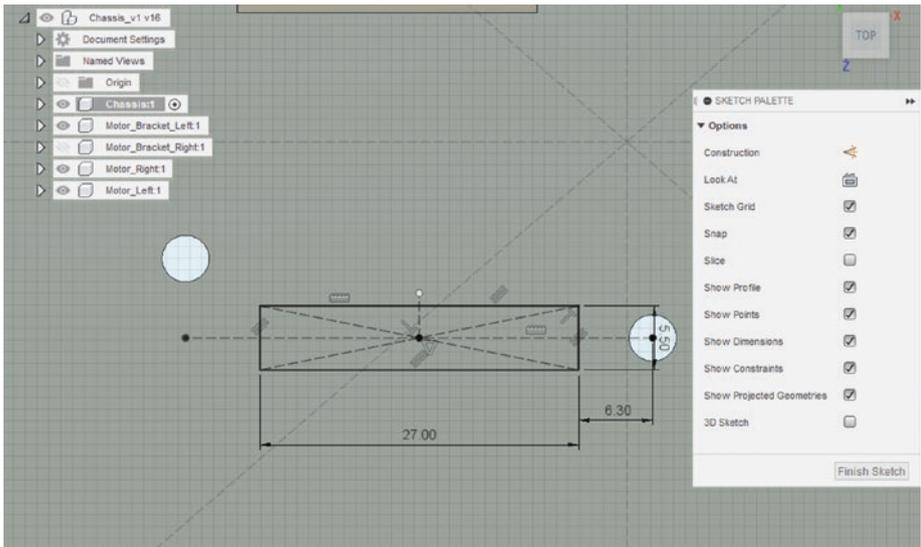

Figure 6-72. Create a rectangle that will be the support of the MEGA 2560 Pro
48. Create a center rectangle next to the Arduino holes. See Figure 6-72 for the measurements.